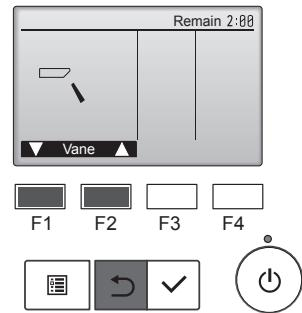

Fig. 7-7
- ① Check the auto vane with the [F1] [F2] buttons. (Fig. 7-7)
- ② Press the button to return to “Test run operation”.
- ③ Press the button.